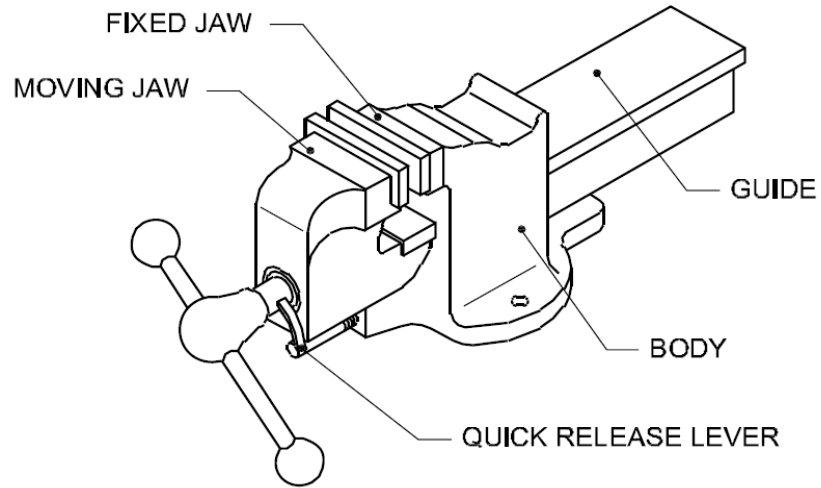

Figure 3
b) Create freehand sketch of the bench vice shown in Figure 3 below (10 Marks)